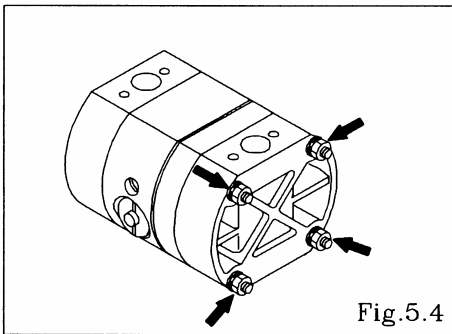

Fig.5.4
- Remove the 8 (12 on the NDP-15) retainer nuts from the out chamber, and remove the out chamber. [Fig.5.4]